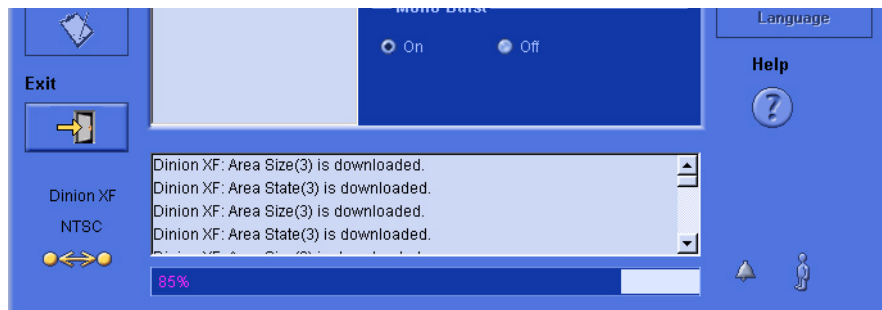

Figure 5.3 Progress bar
6. Click **Yes** to begin uploading or downloading the settings. Since this can be a lengthy operation, depending on the number of configuration changes made, a progress bar is displayed at the bottom of the window to indicate the progress status of the operation (see Figure 5.3).